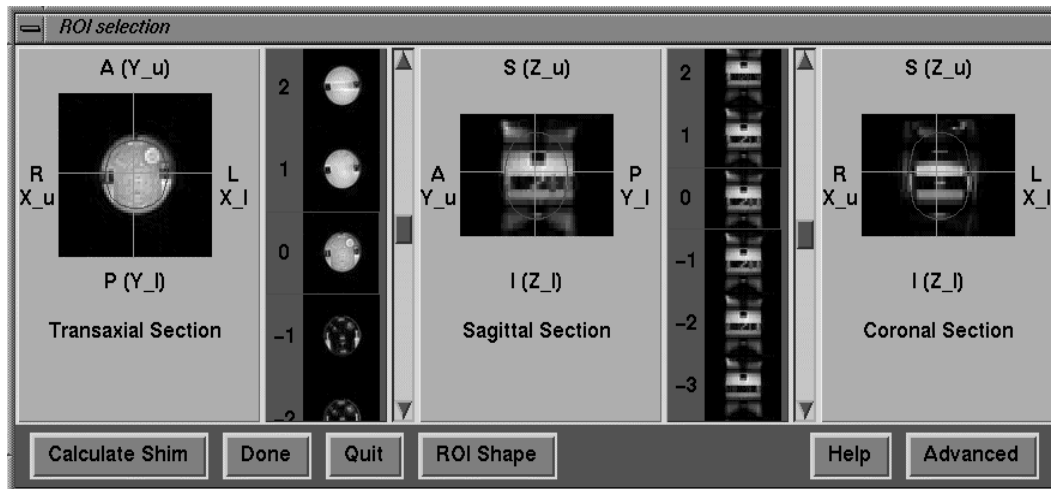

Figure 1: Magnitude Images in the basic screen
4. When the reconstruction is complete, the images will be displayed in the basic screen, as in figure 1.
To review the shim calculation results, save a shim-set of data, recall a previously saved set, manually enter values, or remove one or more of the shim channels, click on Advanced in the basic screen, as seen in figure 1. The Advanced screen as seen in figure 2 appears.